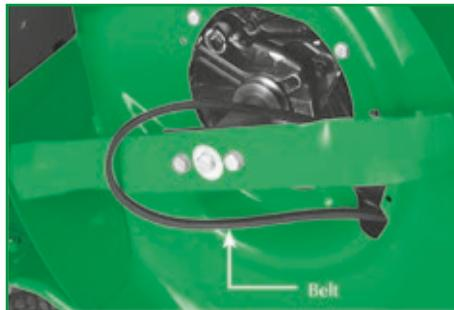

Figure 5
- ✓ To remove the belt from the rear pulley, slide the blade end (Fig. 5).